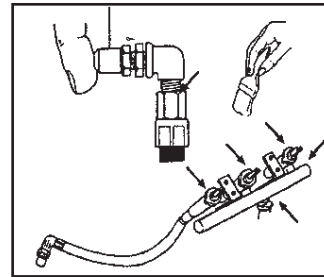

Fig. 6
**CAUTION: KEEP VENTURI TUBES CLEAN. BLOCKAGES CAUSED BY SPIDERS, INSECTS AND NESTS CAN CAUSE A FLASHBACK FIRE. (FIG. 6)**